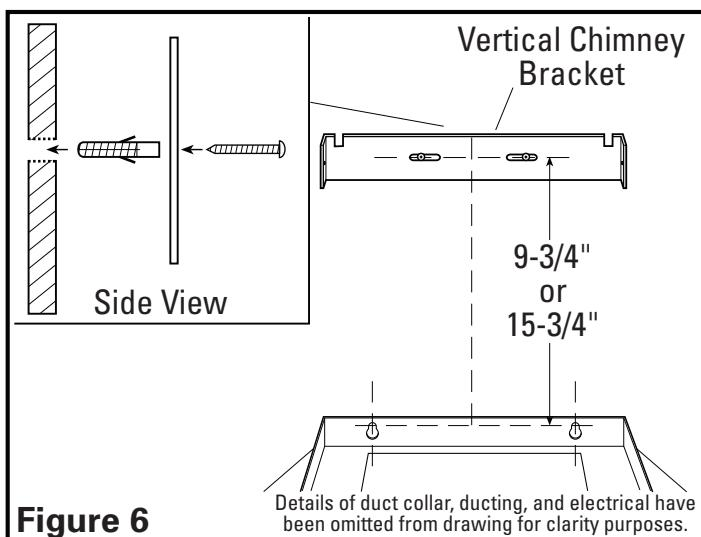

Figure 6
- If installing onto drywall, drill holes into wall using a 3/16" drill bit. Install wall anchors into the drilled holes (one for each hole). Secure bracket into place with (2) provided #6 x 1" screws. If installing into other material (brick, cement, plaster, etc.) choose an appropriate fastener capable of supporting the weight of the chimney (**Figure 6**).